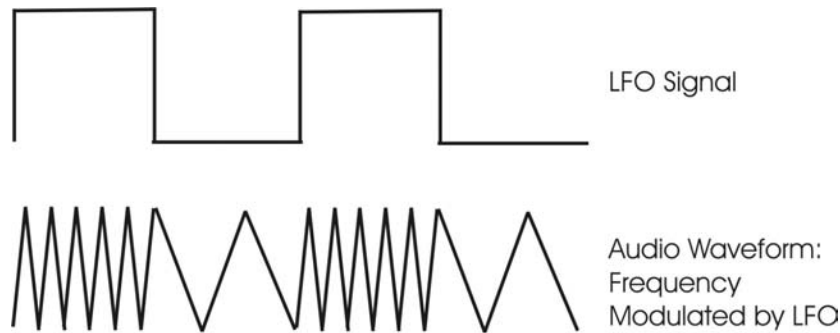

figure 10
**Low Frequency Oscillator** - Also called an *LFO*, this is a special type of voltage controlled oscillator that oscillates primarily below the range of human hearing. LFOs are typically used as a source of modulation. For instance - an LFO with a triangle waveform at about 6 Hz modulating the pitch of a VCO sounds like vibrato. The same LFO with a square wave will sound like a trill (figure 10). An LFO modulating a voltage controlled amplifier will sound like a tremolo.